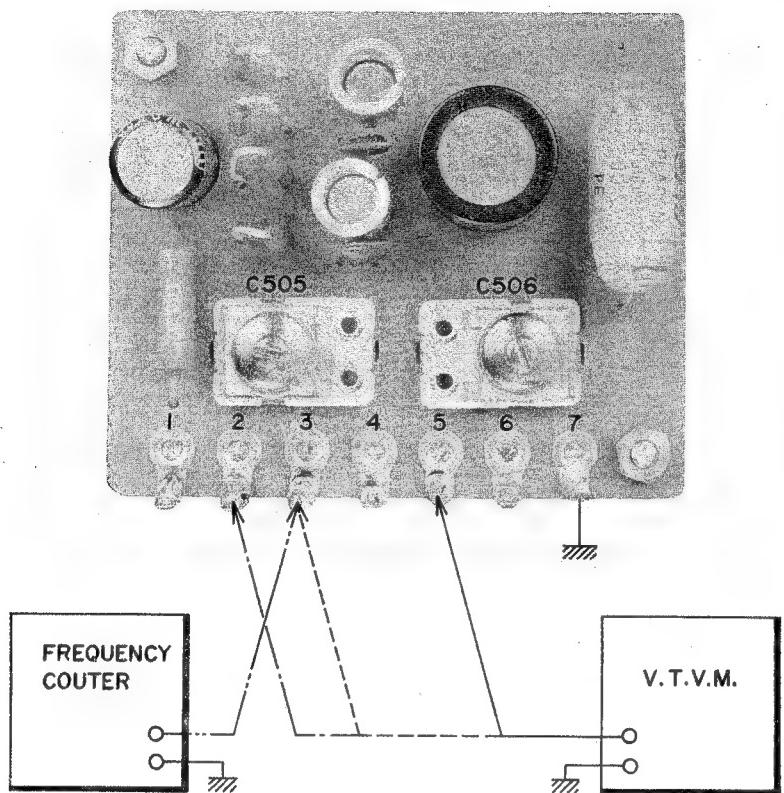

Fig. 13
### 3. RECORDING BIAS FREQUENCY ADJUSTMENT (See Fig. 13)
- Connect a Frequency counter to point (3) in Fig. 13 of the oscillator P.C. Board (LF-5210) and read the frequency indication.
### 4. RECORDING BIAS VOLTAGE ADJUSTMENT (FREQUENCY RESPONSE ADJUSTMENT) (See Fig. 13)
- Connect a V.T.V.M. to points (6) in Fig. 13 of the oscillator P.C. Board (LF-5210) and read the V.T.V.M. indication.